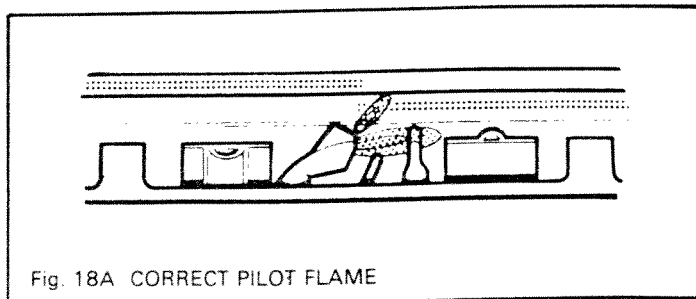

Fig. 18A CORRECT PILOT FLAME
- Check the pilot flame (See Figs 18A 18B).